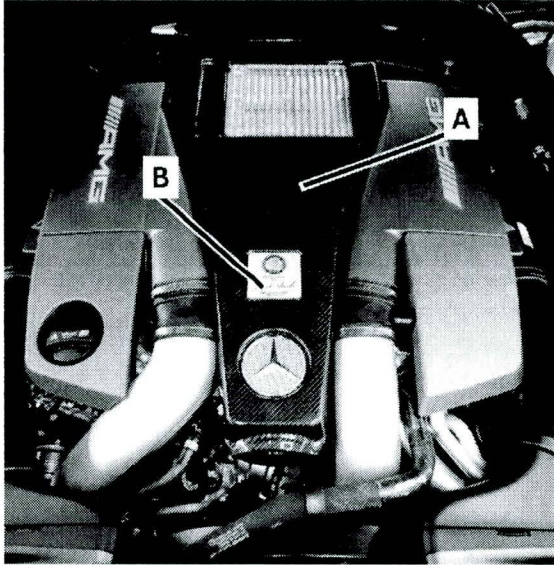

Figure 1
1.  Check engine cover version (A, Figure 1).
3.  Remove engine plate (B, Figure 1) using a hot air gun and wire or plastic wedge.
4. Thoroughly clean adhesive residue from engine plate (B, Figure 1).
5.  Install engine plate (B, Figure1) on new carbon engine cover (A) using window adhesive (shop supply).
6.  Install new carbon fiber engine cover (A, Figure 1).